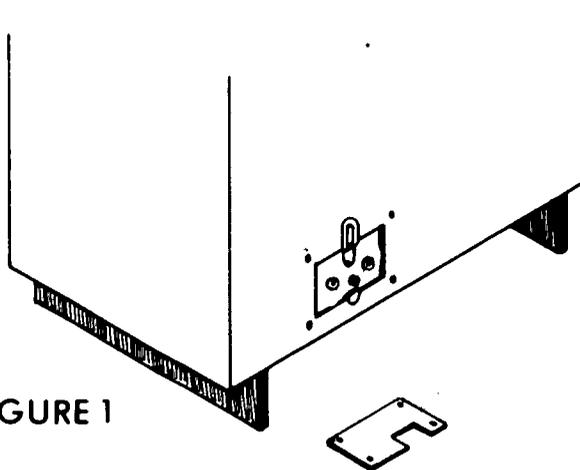

FIGURE 1
- C. Remove appliance terminal cover plate (Figure 1)